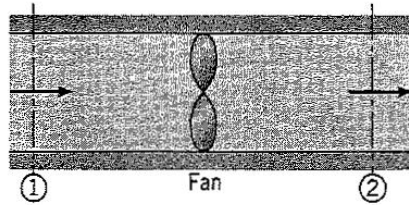

Figure P4.7
4.7 Fluid passes through a fan placed in a duct of constant area, as shown in Figure P4.7. The density is constant.